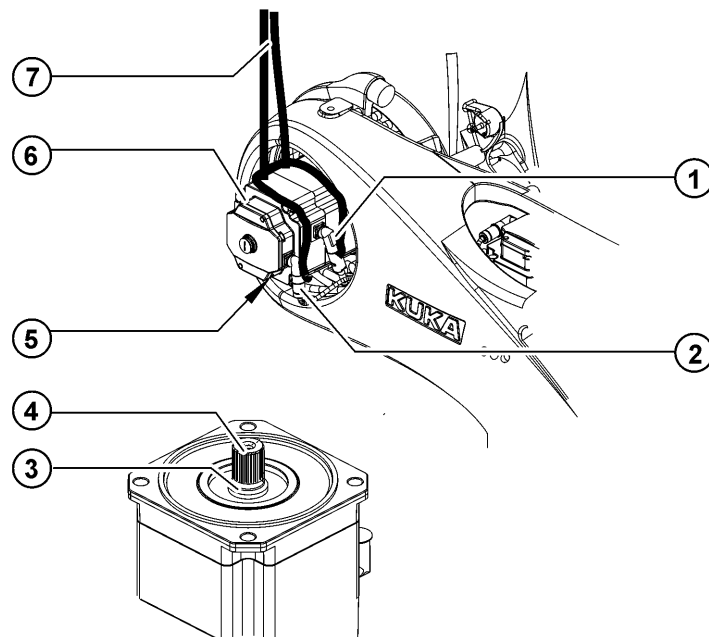

Fig. 11-5: Installing motor A2
1. Remove all protective coatings and oil from new motor A 2 (>>> Fig. 11-5).